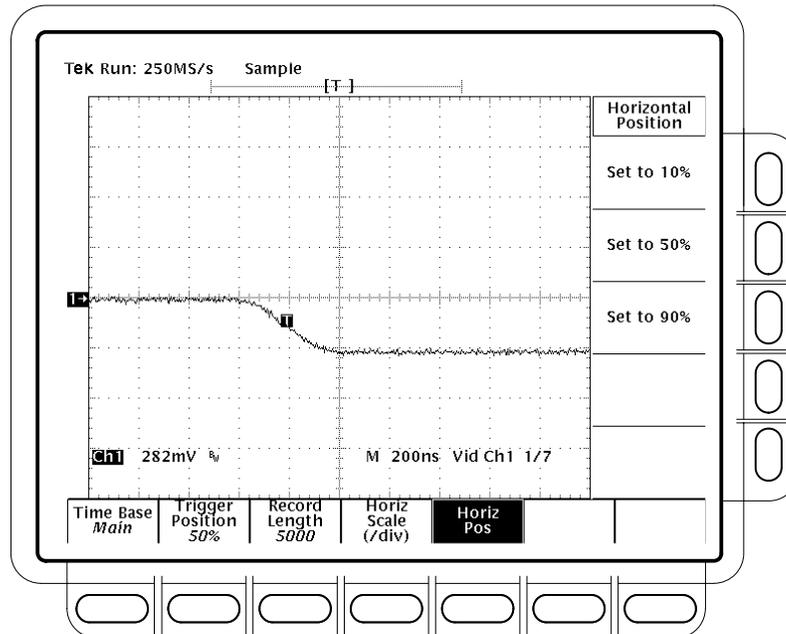

Figure 4-36: Line count accuracy test setup waveform – TDS 684B shown
- Use the **HORIZONTAL POSITION** knob to move the falling edge of the sync pulse to two divisions to the left of center screen. See Figure 4-36.